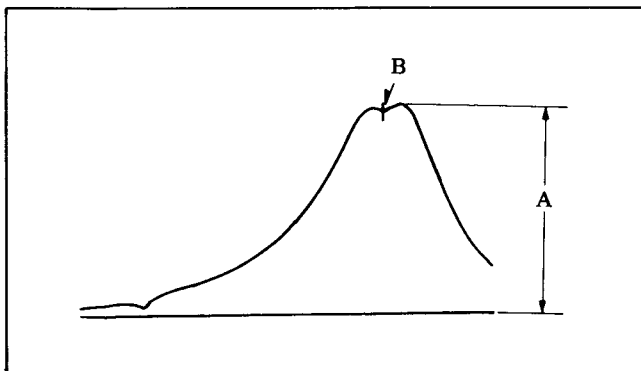

Fig. 31
8. Adjust T704 so that the marker position at B becomes as shown in Fig. 31.